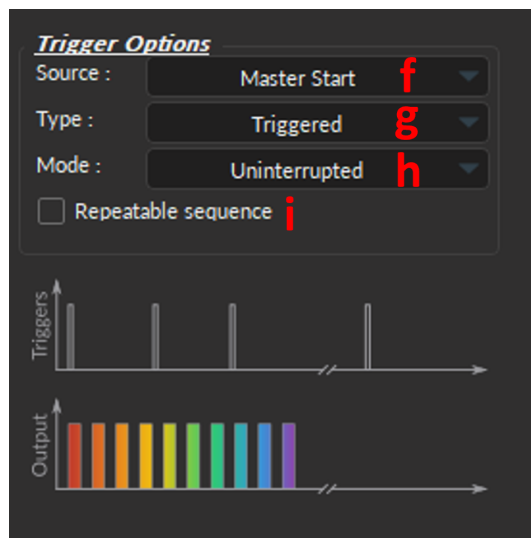
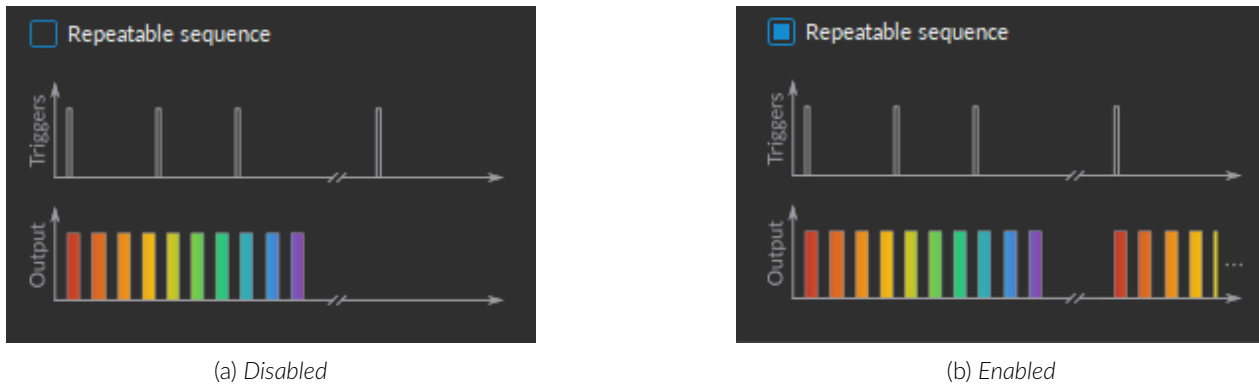

Figure 15.19: BFMC, Trigger Options
Figure 15.21: Repeatable sequence
2. The **Trigger Options** (Fig. 15.19)
- f) The **Source** trigger option (Fig. 15.19, f) specifies the element that will set off the digital output. Two options are available:
- g) The **Type** (Fig. 15.19, g) defines how the trigger activates a sequence. This includes input sequences, which can be triggered/gated by an outside source.
- h) The **Mode** (Fig. 15.19, h) defines how the sequence will run if a second TTL pulse is received before the sequence ends. This includes input sequences, which can be triggered/gated by an outside source. Four options are available:
- i) The **Repeatable sequence** checkbox (Fig. 15.19, i), when enabled, will run the sequence when additional TTL pulses are received (Fig. 15.21).